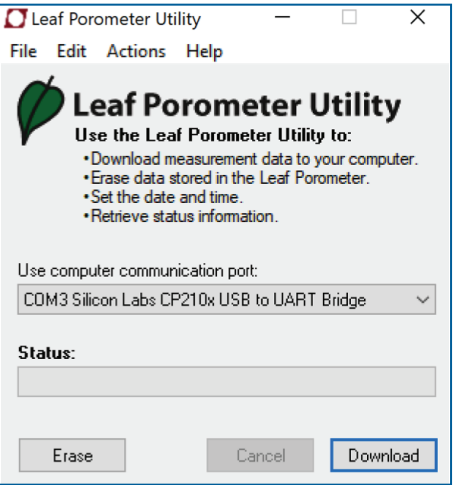

Figure 19 Leaf Porometer Utility main window
4. Choose the appropriate communication port from the from the Use computer communication port dropdown on the main window (Figure 19).